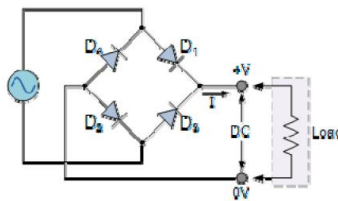

Figure 2.10
4. Referring to Figure 2.10, explain the operation of the circuit.